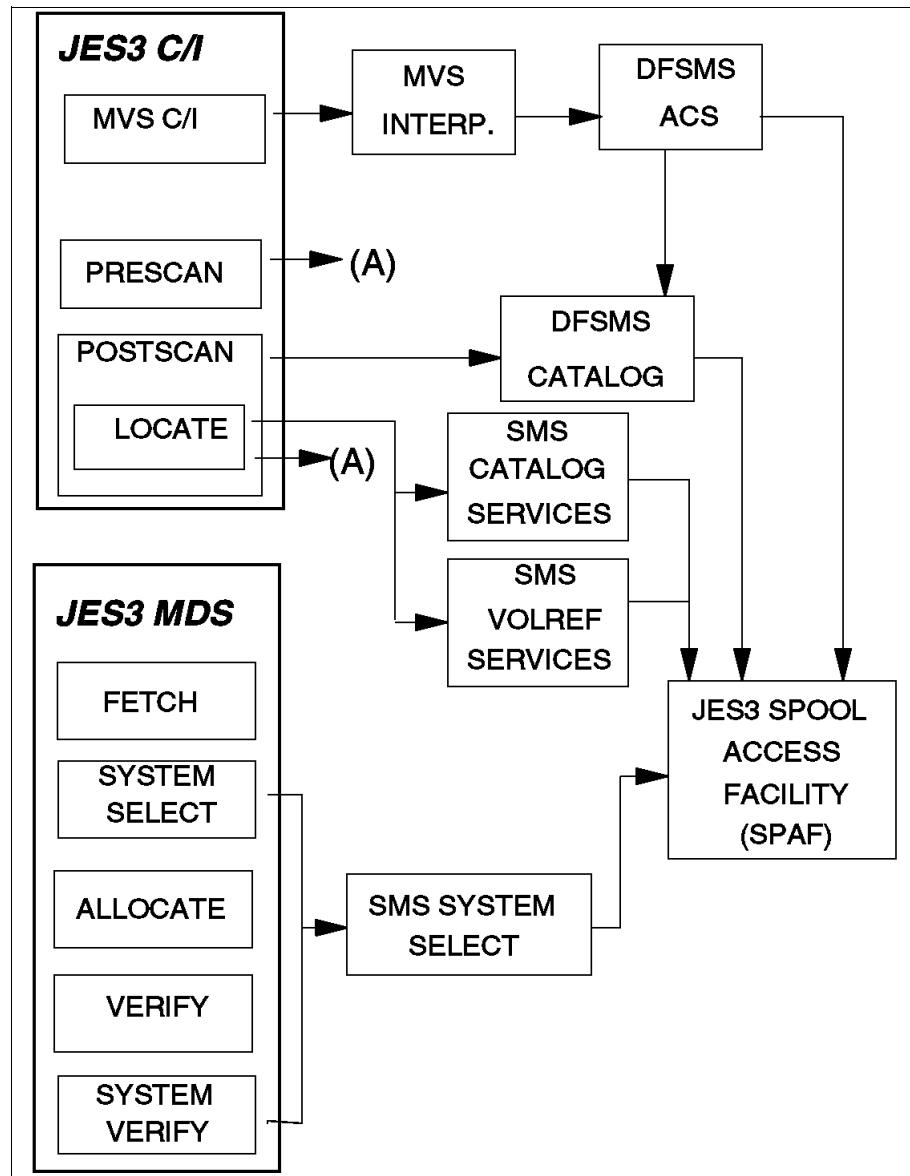

Figure C-11 JES3 CI and MDS processing phases
- ▶ Two calls, one from the prescan phase and the other call from the locate processing phase, are made to the new DFSMS support module, as shown in Figure C-11 on page 934.
Figure C-11 shows the JESS3 processing phases for CI and MDS. The processing phases include the support for system-managed direct access storage device (DASD) data sets.